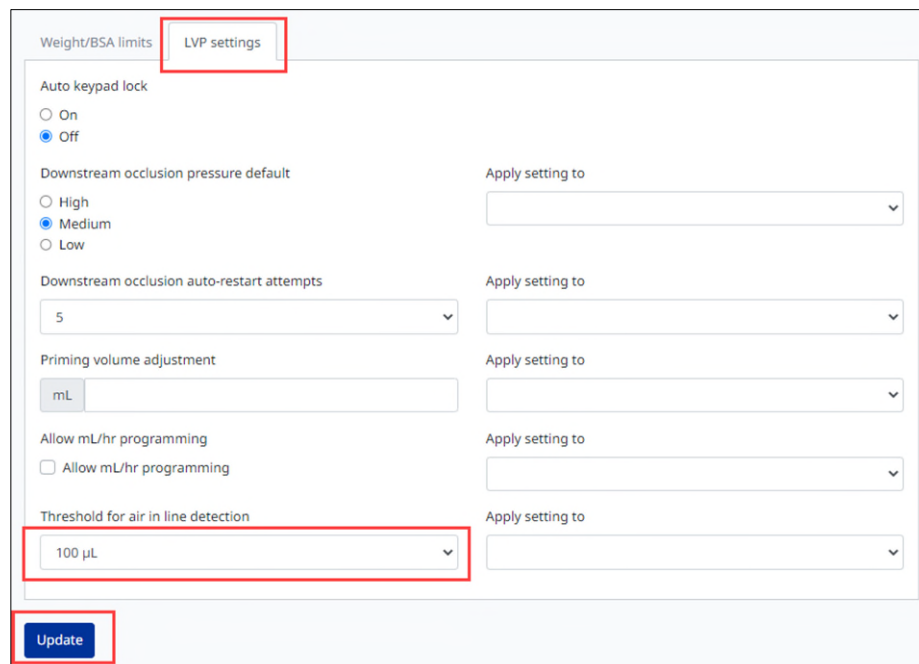

Figure 6
- b) Next, select the **LVP settings** tab (see Figure 6)
- c) View the **Threshold for air in line detection** setting. (See Figure 6)
- d) From the dropdown menu, select the required threshold if different from the displayed **100 μ L** (see Figure 6)
- e) Click **Update** to confirm and save setting (see Figure 6)